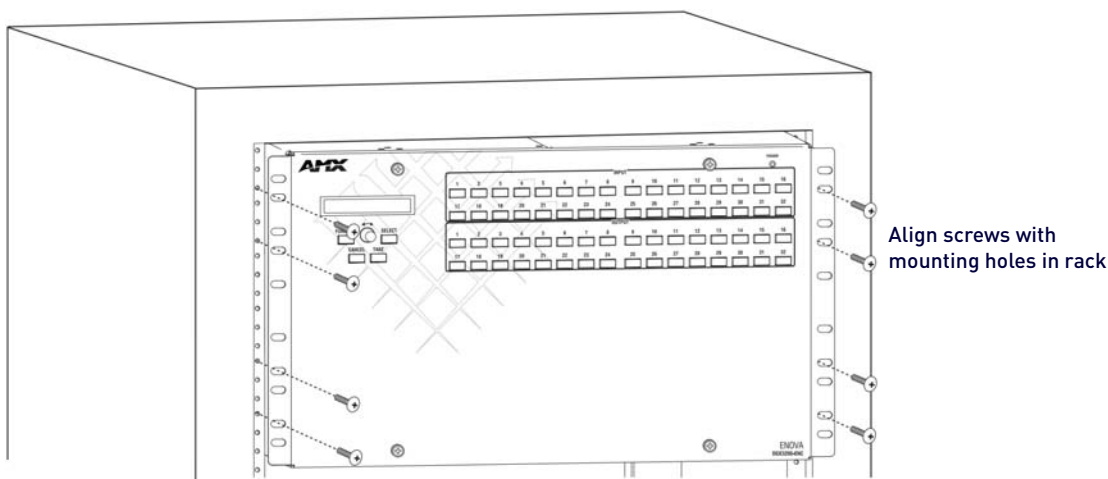

FIG. 16 Rack-Mounting DGX 800/1600/3200 Series Enclosures
11. Lift into position and install the rack ear screws (see FIG. 16 on page 49).
2. Position the enclosure in the rack, and install the rack ear screws on each side (FIG. 16).